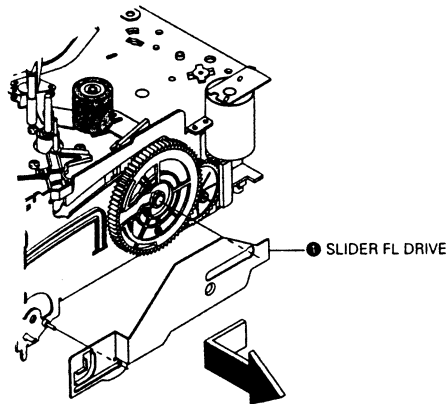

Fig. 1-8 Slider FL Drive Removal
- 1) Pull the Slider FL Drive ❶ to the front direction.
- 2) Remove the Slider FL Drive ❶ in the direction of arrow. (Refer ti Fig. 1-8)